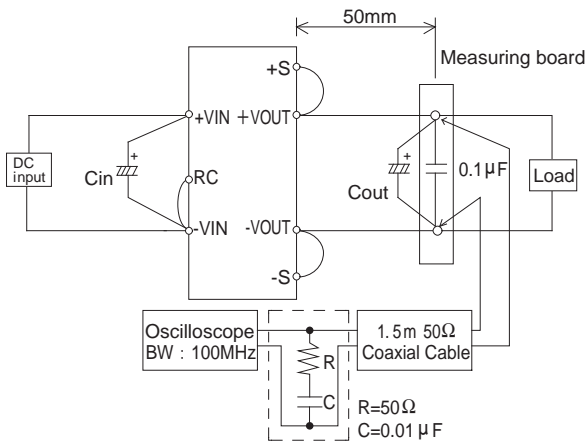
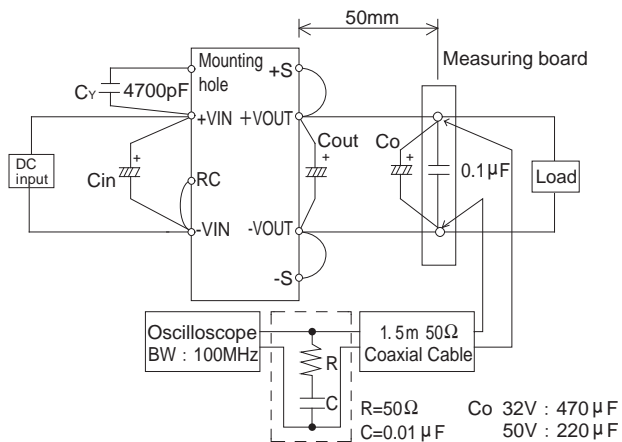

Fig.3.4 Method of Measuring Output Ripple and Ripple Noise (CQHS250)
Fig.3.5 Method of Measuring Output Ripple and Ripple Noise (CQHS300/CQHS350)
■ The specified ripple and ripple noise are measured by the method introduced in Fig. 3.4 and Fig.3.5.